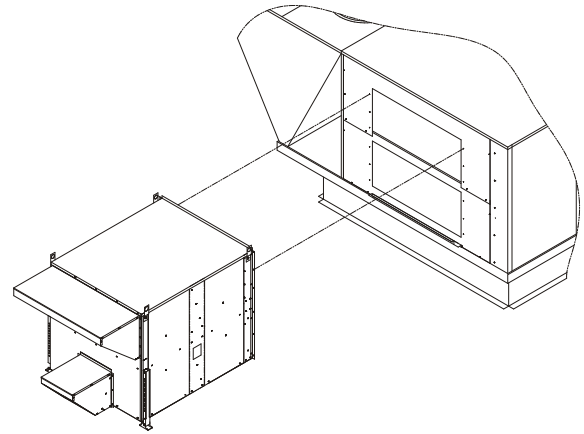

Figure 12
1. Lift and move ERS unit into position in front of horizontal exhaust air opening. **See Figure 12.**
5. Secure ERS to RTU with provided 10-16 x  $\frac{1}{2}$ " gold screws through ERS side flanges to door filler panels installed earlier. **See Figure 12.**